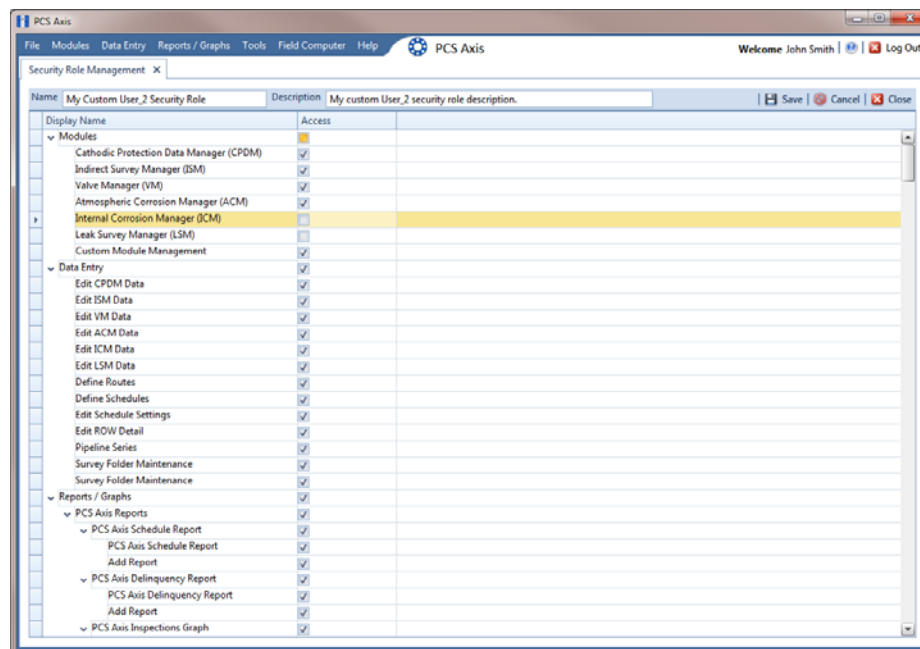

Figure 3-19. Security Role Management
- 2 Click the down arrow in the **Role** field and select a custom security role in the selection list. Then click  **Edit** to begin editing permissions (Figure 3-19, page 58).